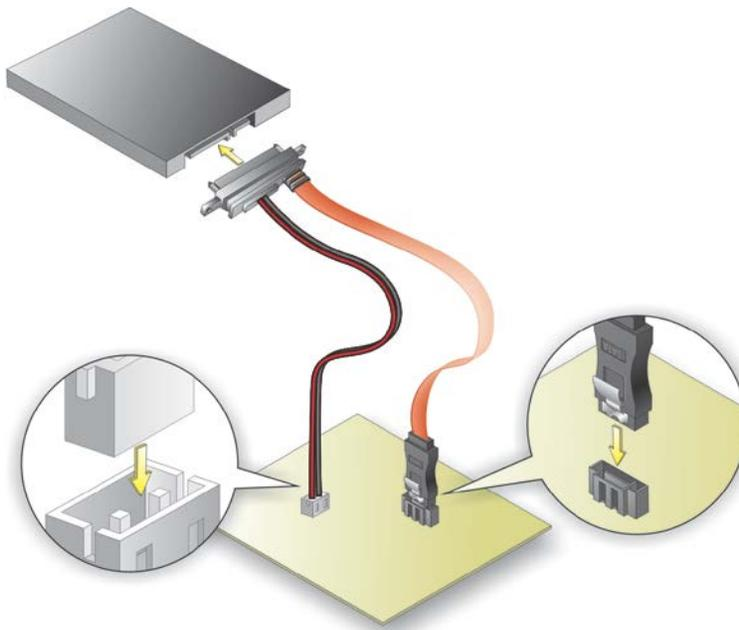

Figure 4-9: SATA Drive Cable Connection
Step 2: **Insert the cable connector.** Insert the cable connector into the on-board SATA drive connector and the SATA power connector. See **Figure 4-9**.
Step 3: **Connect the cable to the SATA disk.** Connect the connector on the other end of the cable to the connector at the back of the SATA drive. See **Figure 4-9**.